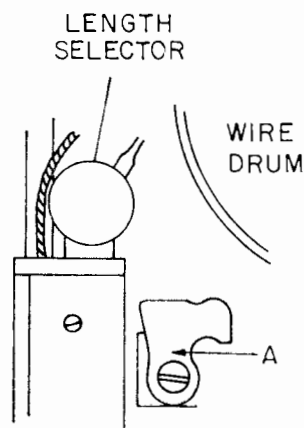

Fig. 323. Adjusting the feeder cam.
3. Turn the feeder cam to the position as shown in A, Figure 323.
6. Throw the machine out of gear by your releasing the feeder latch and tripping the feeder cam, A, as shown in Figure 323.